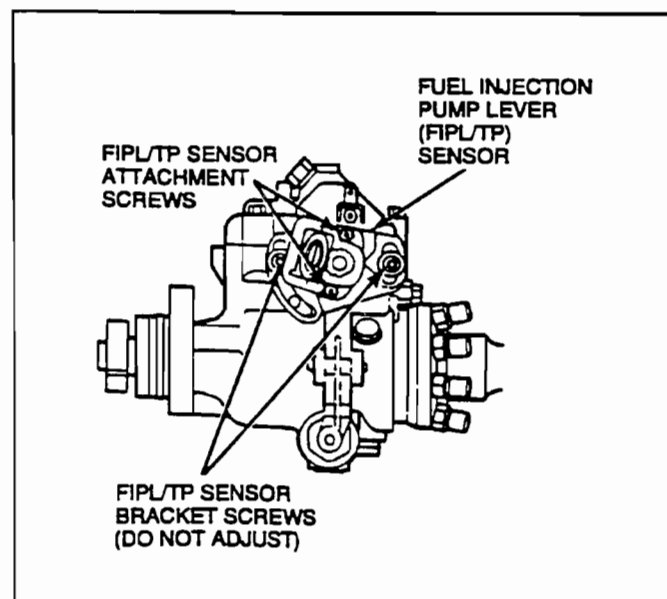

Figure 3
a. Loosen the two (2) screws that attach the FIPL/sensor to the mounting bracket Figure 3.
a. Cycle the throttle lever from idle to wide open throttle (WOT) five (5) times.